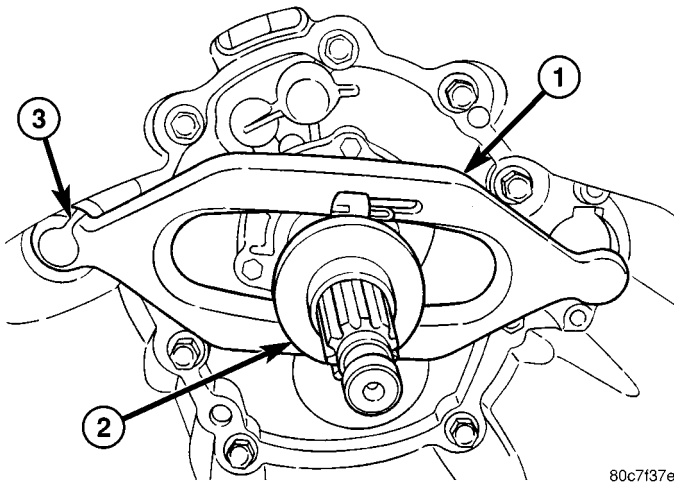

Fig. 3 CLUTCH RELEASE BEARING
(15) Remove clutch release bearing, release fork and retainer clip (Fig. 3).